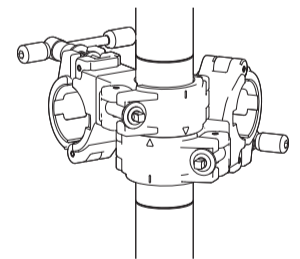

Fig.4
- When you want to set the horizontal pipe of an additional unit at the same height as on the basic unit, attach two J30TS in alternate positions, as shown in fig. 4.
- As with the basic unit, by removing cap ① on the top of the vertical pipe, you can attach a cymbal holder (19.1 mm (3/4") diameter pipe). The accessory multi-holder clamp (J34T) can hold a tom holder, etc.